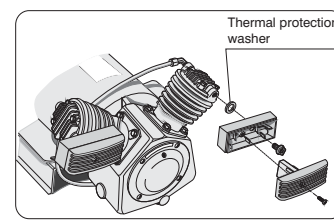

FIGURE 5
- Position:** Mount at least 32 inches (800 mm) from any wall or obstacle and with minimum two (2) meters of height, to allow good ventilation during operation and to make maintenance easier. When cabinet 15 is used, the minimum distance should be 4 inches (100 mm).
**2.1 Compressor installation:** When connected to the compressed air network, the discharge connection (1/4") and 1/2" (CSV 15, MSV 18/250 and CSV 20) must be joined by means of a hose or expansible gaskets so that the charges, thermal expansion, piping weight, mechanical and thermal shocks or obstructions are not transmitted to the air tank. Physical damage to the compressed air tank may occur if the above warnings are not followed. Instruction assembly rectangular filter (see Figure 5).
- C. Inspect the intake filter 12, (Figure 5 and 17 for models CSV 15 and CSV 20) or when supply in special condition (Figure 18) when the filter element clogged is necessary change.
- D. Check if the belt, located inside the belt protector 20, (CSV 15 and CSV 20), is making abnormal noise or movements. If so, see item (4C) procedure below.